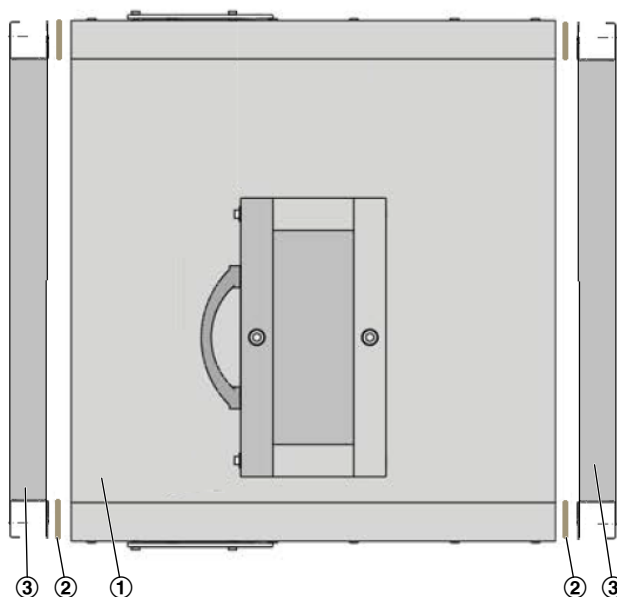

Fig. 3: EK2-EU frame mount
- If EK2-EU damper ( Fig. 3 /1) is delivered with loose connecting frame ( Fig. 3 /2), this should be installed to the damper using the screws provided according to TROX IOM. If the gasket ( Fig. 3 /3) is supplied loose, this must be applied to the face of the connecting frame before installation to the damper.